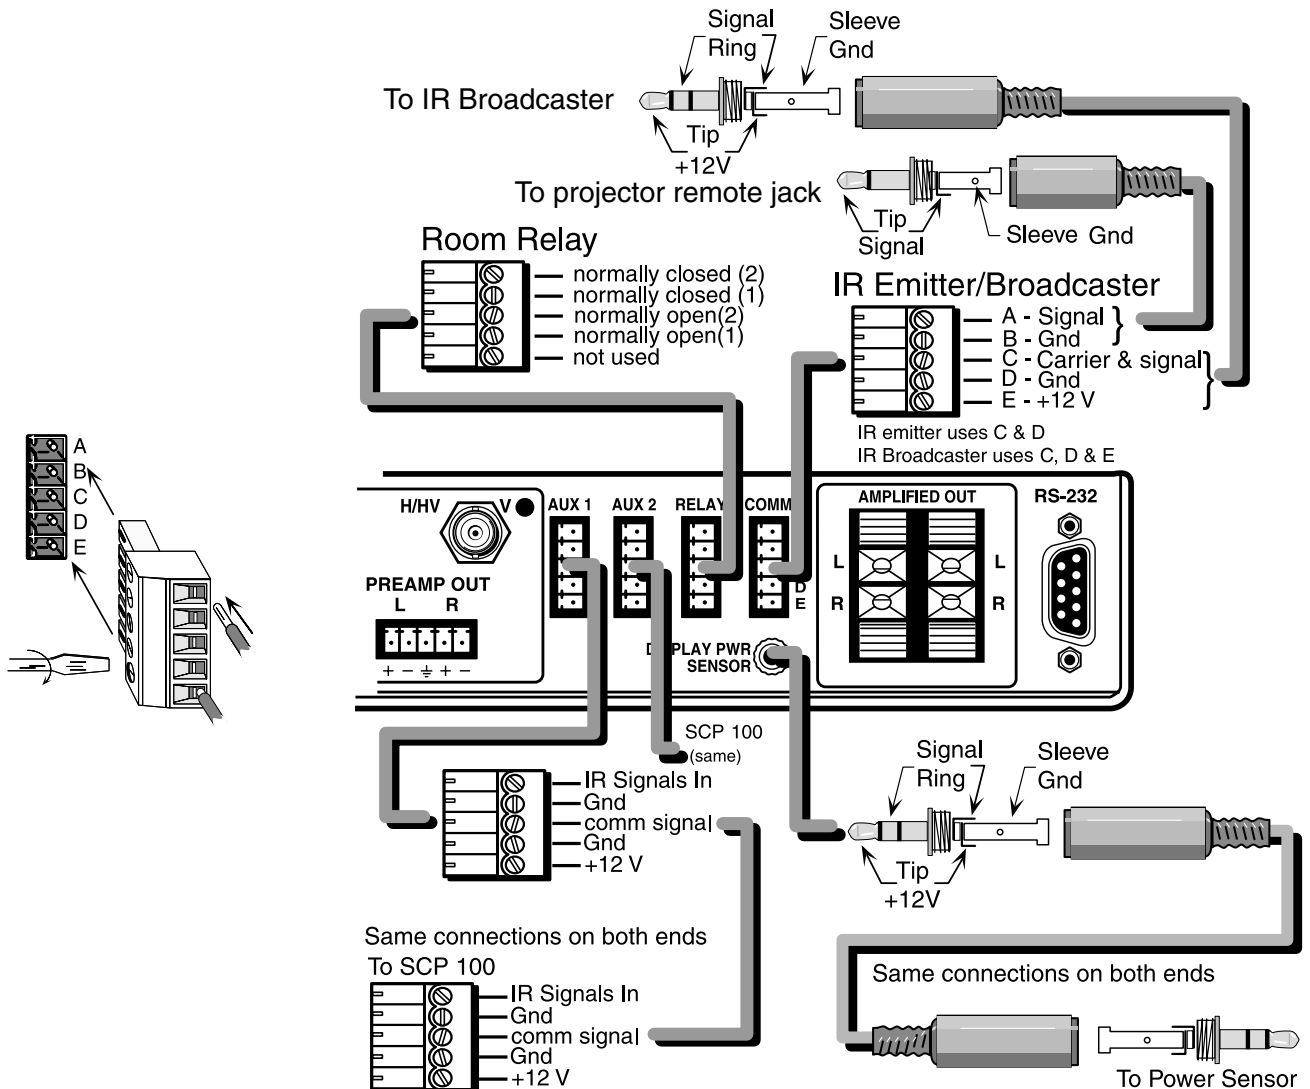

Figure 2-7. System 5 accessory and option connections.
The System 5 can have several options and accessories that use connectors in the rear panel. Figure 2-7 shows four of the captive screw connectors for the Room Relay, IR Emitter or IR Broadcaster and the two SCP 100 remote panels. There is also one round connector for an optional Display power Sensor. Each accessory product has its own user's manual and is also summarized in Appendix B of this manual.
All connectors are provided. Cables are the responsibility of the installer. The two standard accessories described in this section are the Infrared Emitter and the Room/Relay custom control. Figures 2-7, 8 and 9 show accessory connections. Optional devices (SCP 100, the IR Broadcaster and the Power Sensor) are also covered in their separate user's guides and are summarized in Appendix B of this manual.
- 1a. Connect the IR Emitter (included) to transmit all of the “learned” IR commands to the projector. The IR Emitter includes a black cable with two wires, one has a white stripe. Insert the wire with the white stripe into the carrier/signal pin (C) and the solid black wire to either ground contact (B or D).
- 1b. If a wired remote can be plugged into the projector, that cable will use pins A (signal) and B, as shown in Figure 2-7.